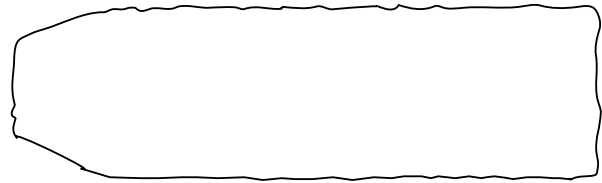
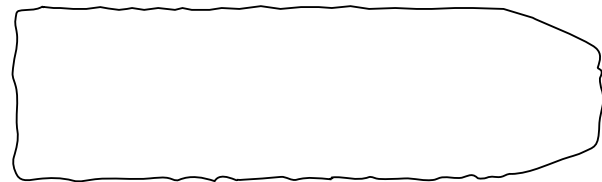
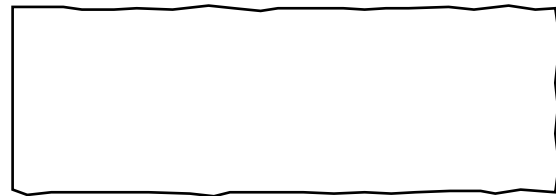

Fig. M7
Fig. M8
Fig. M9
- If the envelope is as shown in Fig. M7, adjust the height of Guide Roller [2] (Refer to Fig. M3) so that the waveform looks like the one shown in Fig. M9.
- If the envelope is as shown in Fig. M8, adjust the height of Guide Roller [3] (Refer to Fig. M3) so that the waveform looks like the one shown in Fig. M9.
- When Guide Rollers [2] and [3] (Refer to Fig. M3) are aligned properly, there is no envelope drop either at the beginning or end of track as shown in Fig. M9.